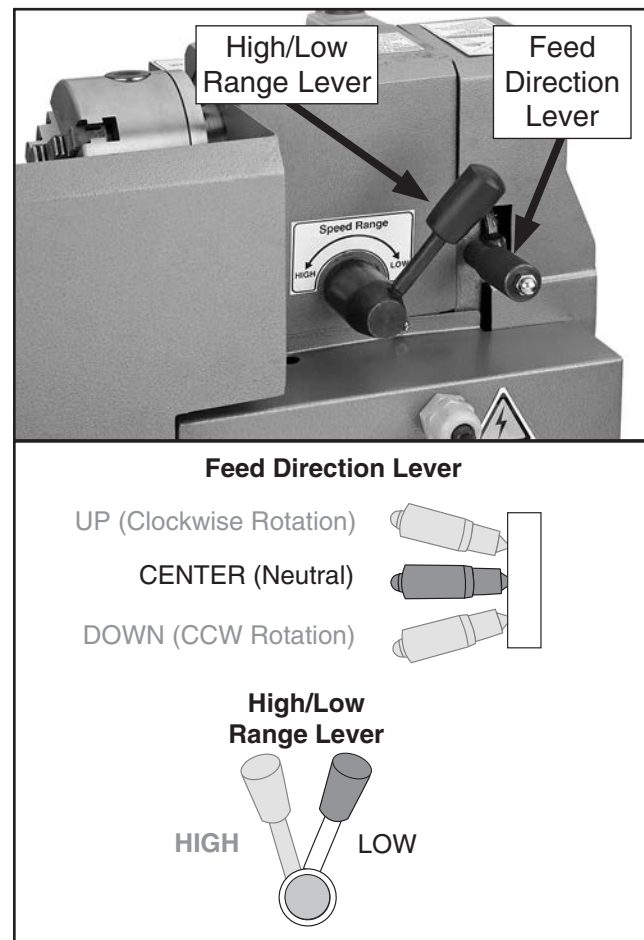

Figure 16. Lever settings.
2. Shift high/low range lever on back of lathe to **LOW**, and feed direction lever to neutral (see **Figure 16**).